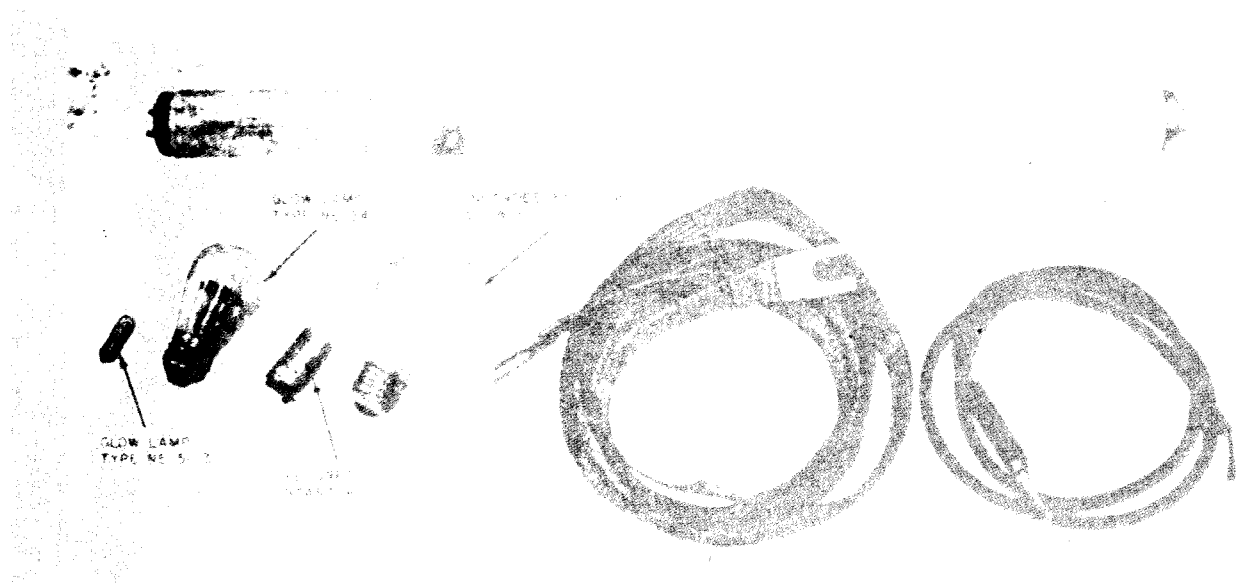

Figure 1-13. Shelter, Electrical Equipment S-371/MS-31A, running spares.
(7) *Running spares.* The running spares are shown in figure 1-13.